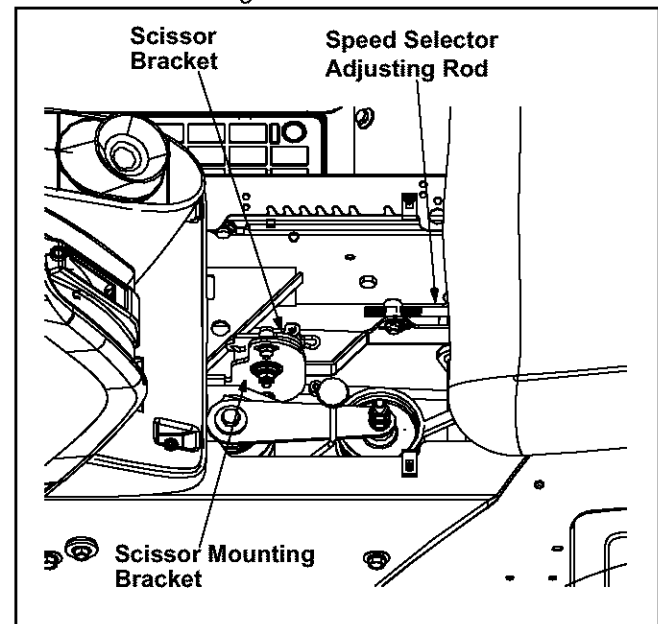

Figure 16
- Loosen the hex jam nut on the speed selector adjusting rod. See Figure 16.
- Loosen the hex nut on the scissor mounting bracket. See Figure 16.